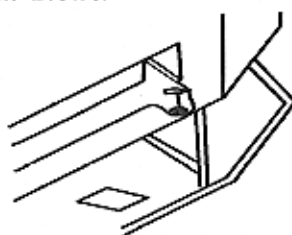

Figure 14-F-Installing Bushing
4. Install one plastic bushing provided in blower kit into the 1.5" hole in the left rear of firebox floor. Access hole through the rectangular opening in the rear panel (see Figure 14-F).